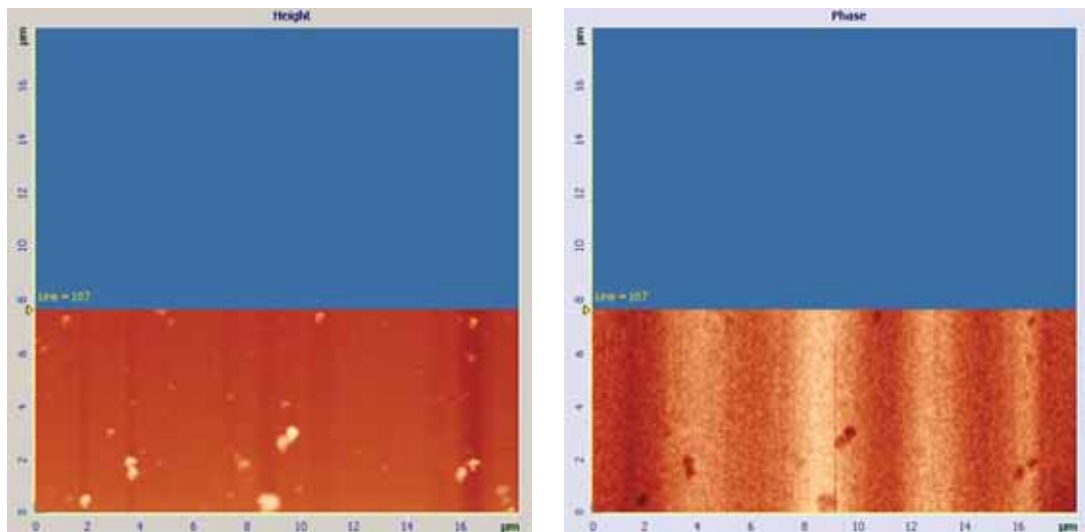

Fig. 9-20. Images of surface topography (left) and spatial distribution of the Z-component of the electric potential gradient on the surface of a GaAs (right)
- Two images appear in the 2D Scanning Data View panel. One of the images is an image of surface topography (signal **Height**), while the other one is the distribution of the Z-component of the electric field gradient on the sample surface (signal **Phase**) (Fig. 9-20).